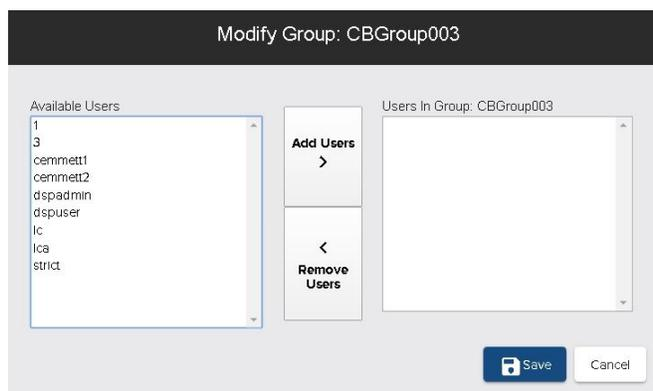

Figure 81: User group management window
2. The group membership window will appear, listing the available users and the current members in the group (Figure 81).